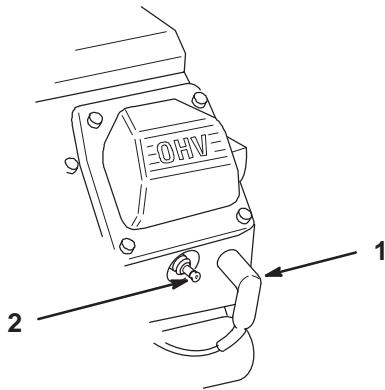

Figure 38
- Pull the wires off of the spark plugs (Fig. 38).
- Push the wires onto the spark plugs (Fig. 38).